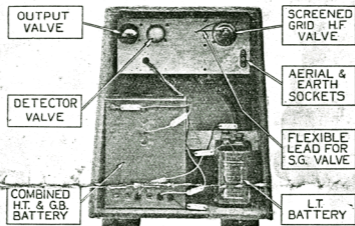

FIG. 1.
Place the accumulator as shown in Fig. 1 and connect as follows:—
H.T. BATTERY. Place the battery in position, with the Grid Bias tappings at the bottom, as shown in Fig. 1. Connect as follows:—
VALVES. Three of the following valves are inserted in the positions shown in Fig. 1.
AERIAL AND EARTH CONNECTIONS. Connect aerial to red plug and earth wire to black plug and insert in aerial socket A1 and earth socket E respectively (see Fig. 1). If interference occurs refer to paragraph 9.